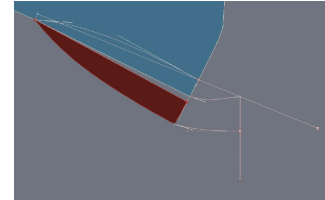

Fig 3.3 Collar editing
- Seam the collar shape that I created at first out and marry the collar shape to the other side. (See Fig 3.3)